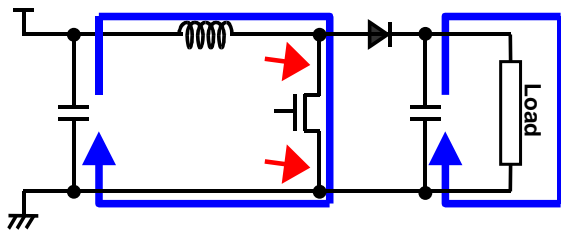
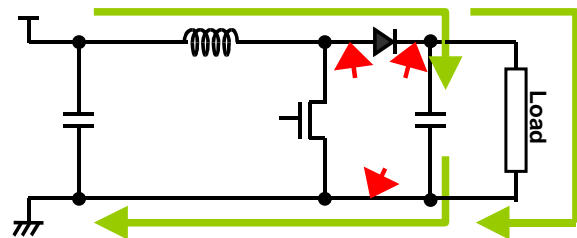

Figure 7. MOSFET-ON
Figure 8. MOSFET-OFF
Figure 7 and Figure 8 show flows of current paths of the application circuits when MOSFET is ON and when MOSFET is OFF, respectively.
- Parasitic elements (impedance, inductance or capacitance) in the paths pointed with red arrows in Figure 7 and Figure 8 influence stability of the system and cause noise outbreak. It is recommended that these parasitic elements be minimized.